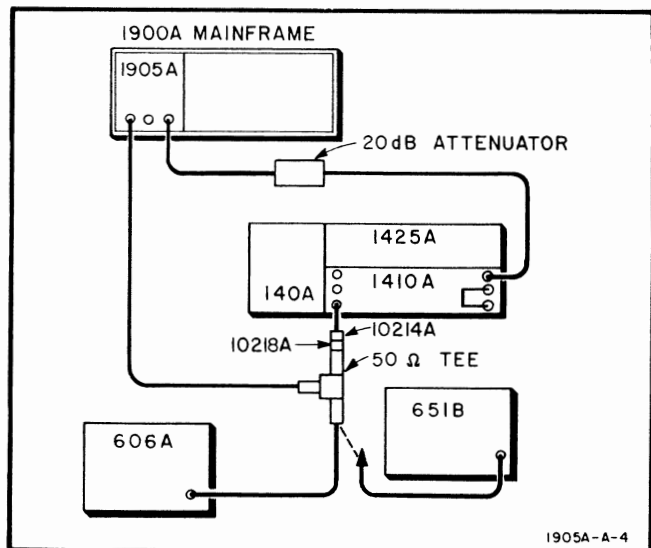

Figure 5-4. External Trigger Test Setup
a. Connect the equipment and accessories as shown in Figure 5-4.